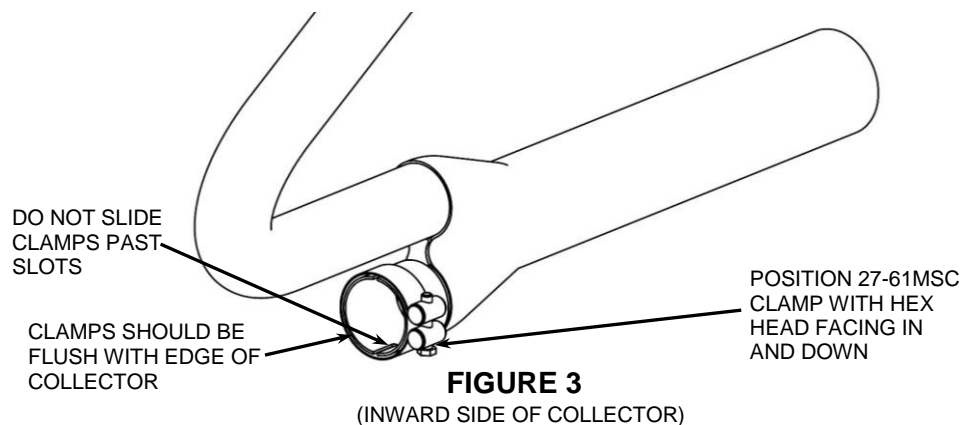

FIGURE 3
9. Position the supplied #27-61 MSC clamp onto the rear headpipe collector assembly inlet. The hex head of the clamp should be inward and down. See **FIGURE 3**. (NOTE: The clamp should be flush with the end of the inlet when tightened. See **FIGURE 3**. If the clamp is slid past the slots on the inlet the clamp will not tighten properly).
14. When the system is straight, tighten in the following order; headpipe flanges to the cylinders (slowly tightening opposing nuts), 2 into 1 collector clamp (27-61 MSC), and finally the front headpipe support clamp. (NOTE: The clamps should be flush with the end of the muffler or collector when tightened. See **FIGURE 3 & 5**. If the clamps are slid past the slots on the muffler inlet or the collector inlet the clamps will not tighten properly).